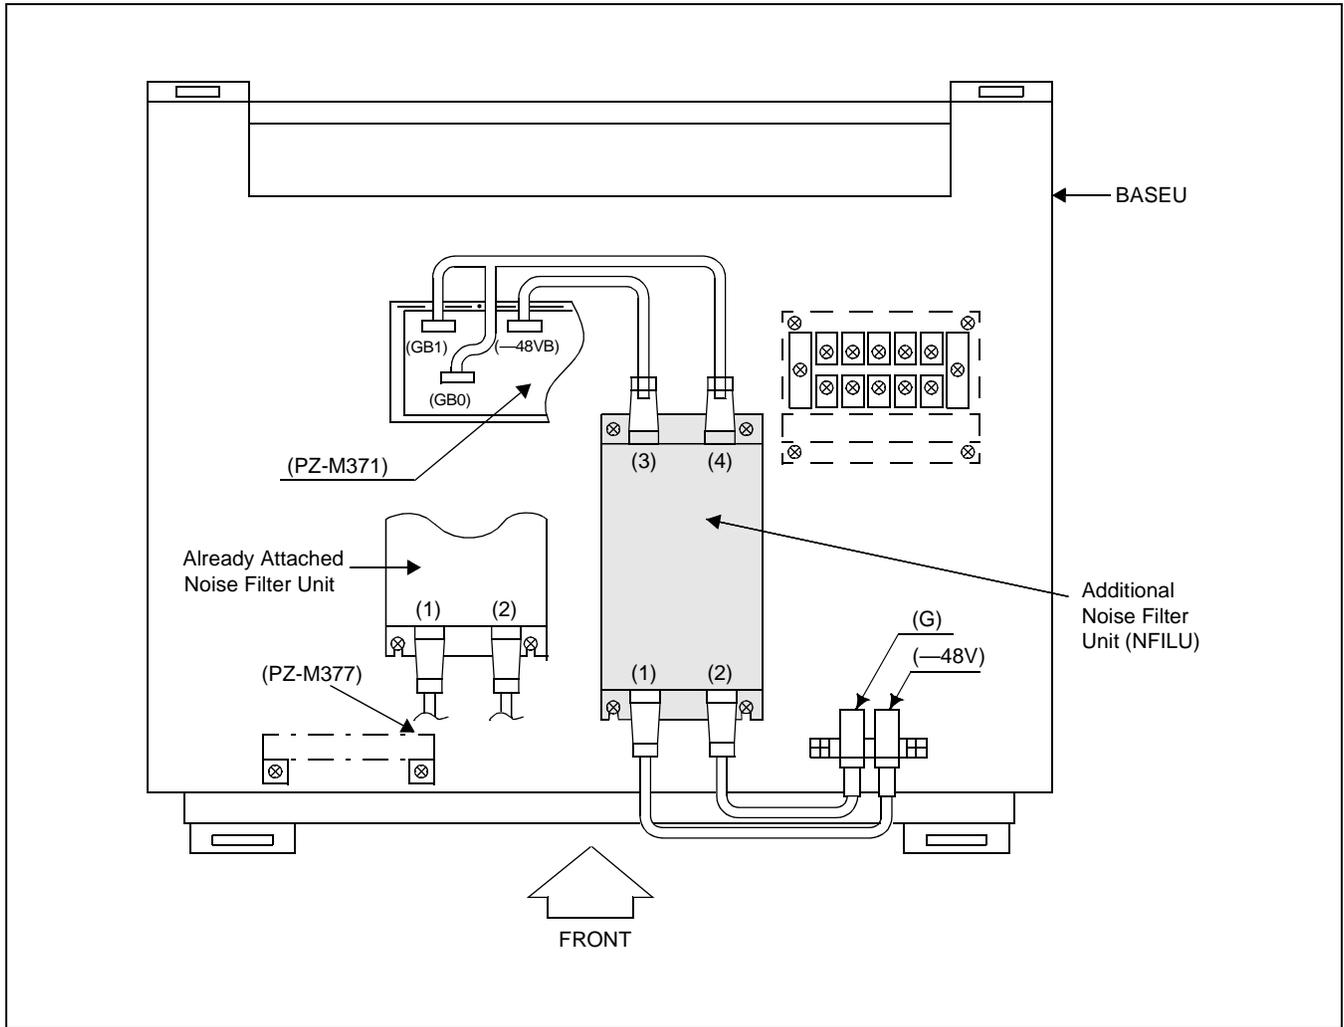

Figure 005-14 Cabling Diagram of NFILU
- Referring to Figure 005-14, connect the cables equipped with the NFILU to the terminals on the BASEU.